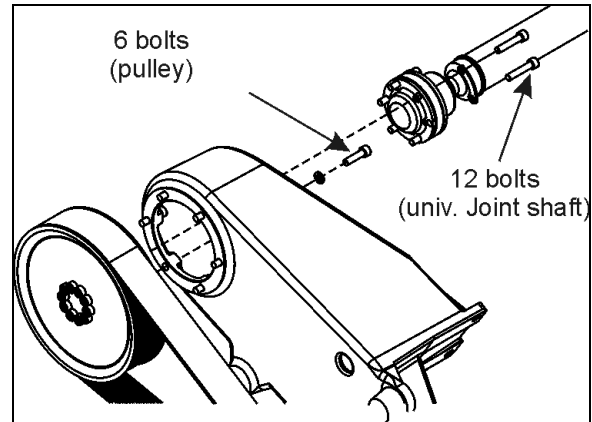

FIGURE 22: PULLEY AND SHAFT
2. Dismount the drive pulley. Gain access to the 6 mounting bolts from behind the pulley, through the opening in the cast aluminum support (Figure 22).
3. Unscrew and remove the universal joint shaft mounting bolts (6) at the right angle gearbox.